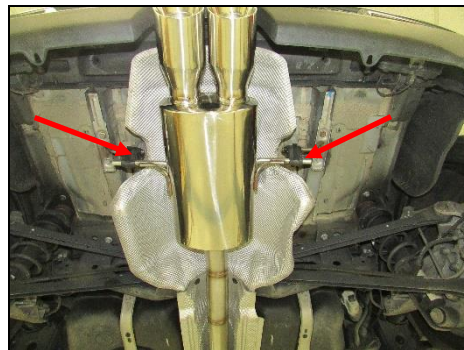

Figure 9
4. Install the (x2) hangers in the OE rubber isolaters (**Figure 9**).